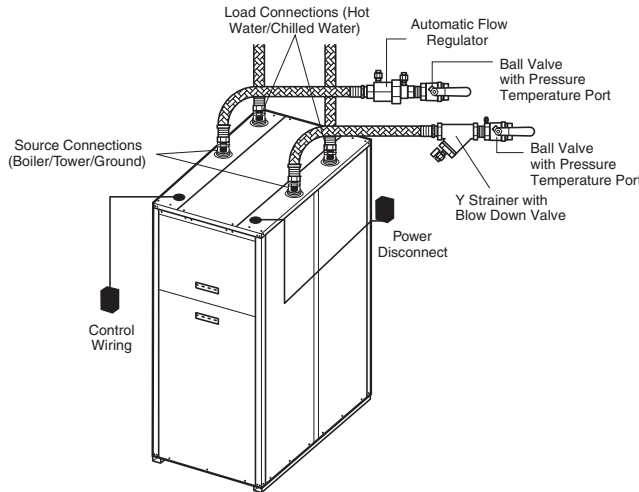

Fig. 3 — Typical Water Loop System — Boiler, Tower, or Ground (Sizes 180,360 Shown)
Step 4 — Mount Unit — Mount unit as shown in Fig. 3. Rod attachments must be able to support the weight of the unit. See Table 1 for unit operating weight.